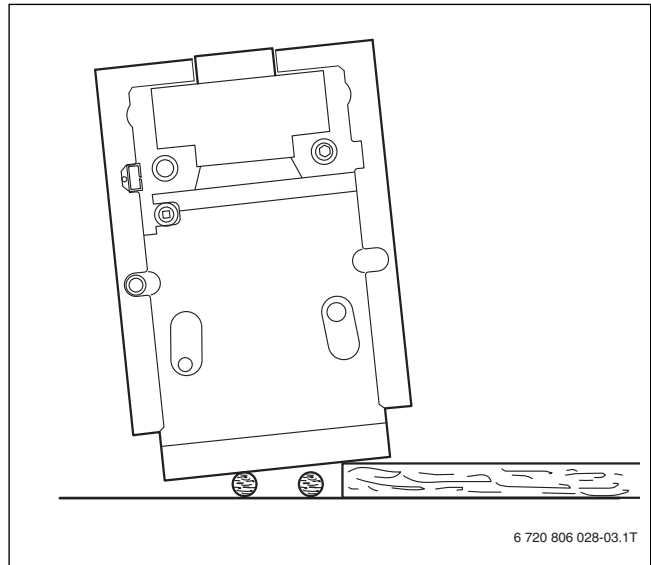

Fig. 5 Transporting the boiler on rollers
- ▶ Place a pipe under the boiler and roll it on additional pipes to the installation location (→ Fig. 5).